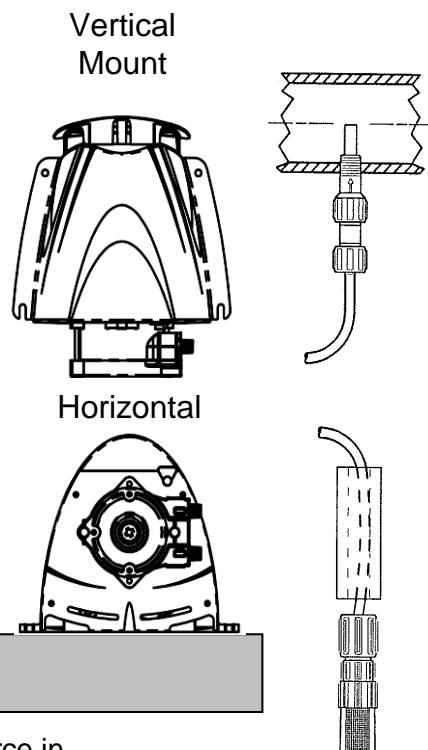

Figure 2: Injector Placement
- 1) The pump can be installed either vertically or horizontally (See Figure 2). Make sure to secure the pump on a flat level surface that will support 50-lbs (22kg) and secure with four .25-in (6mm) screws in the holes provided. The guard snaps into the back of the pump via three tangs - see Figure 1. The pump should be mounted with no less than 1.75-in (44mm) of clearance around the venting on both the front and the rear of the pump. Locate the pump so there is direct access to the power cord plug.
- 3) Relieve the system pressure and drain the piping run where the injection fitting is to be installed. See Figure 2 for reference. **The injection fitting must not be installed in a dead end pipe or a deeply recessed tee. It should be installed so as to place the tip at the center of the fluid stream as indicated in Figure 2.** The injection fitting is supplied with .25-in NPT threads. If necessary drill a .44-in (11mm) diameter hole and using care not to tap too deeply, tap for .25-in NPT.